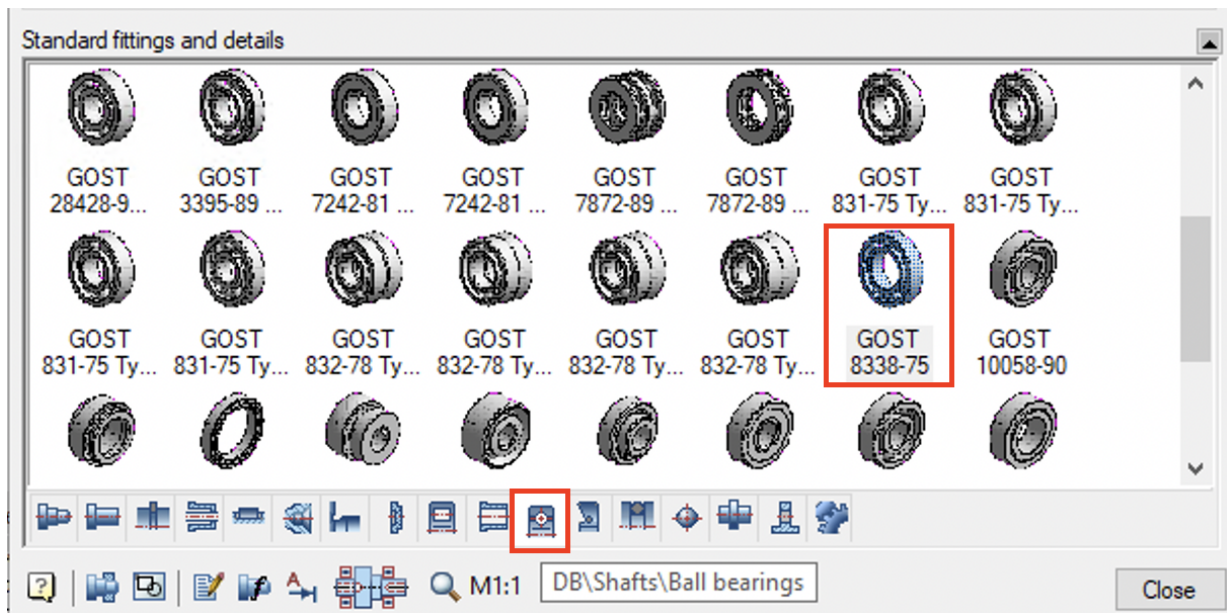

Fig. 20. GOST 8338-75
3.1 Double-click on the centerline to open the **Edit Shaft** dialog box. In the **DB/Shfts/Ball bearings** section (click the icon in the bottom of the dialog) select the bearing GOST 8338-75 (fig. 20).